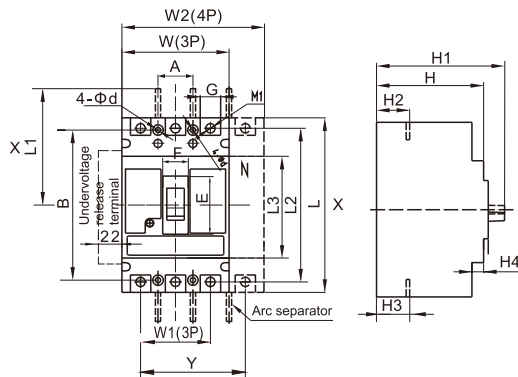
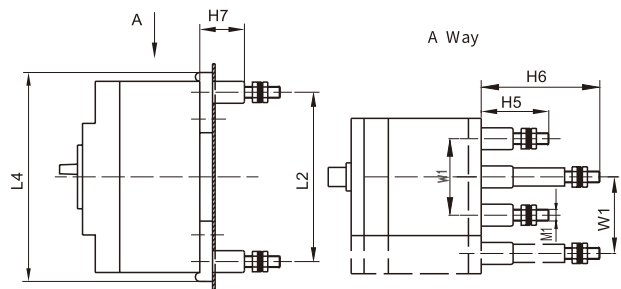
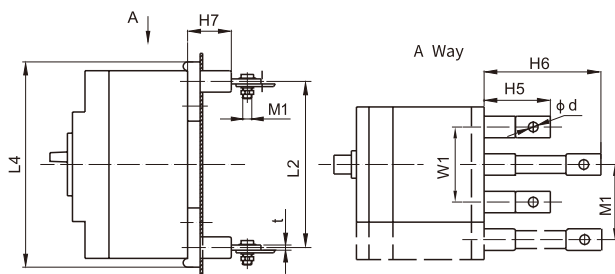

Fig.2 Fixed type front of board wiring
Fig.3 RDM1E-125, 250 Fixed type rear wiring
Fig. 4 RDM1E-400, 630, 800 Fixed type rear wiring
Appearance dimension as Fig. 2, Fig. 3, Fig. 4, Fig. 5, Fig. 6 and table 10
(1) Front of board wiring appearance dimension as Fig. 2 (X-X,Y-Y is the center of 3P circuit breaker)
(2) Rear wiring appearance dimension as Fig. 3, Fig. 4